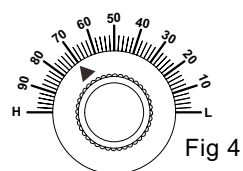

Fig 4
- 4. Based on the previous experience, 70% (Figure 4) adjustment position can be used to most of mediums (Need to do INITIAL CALIBRATION first).